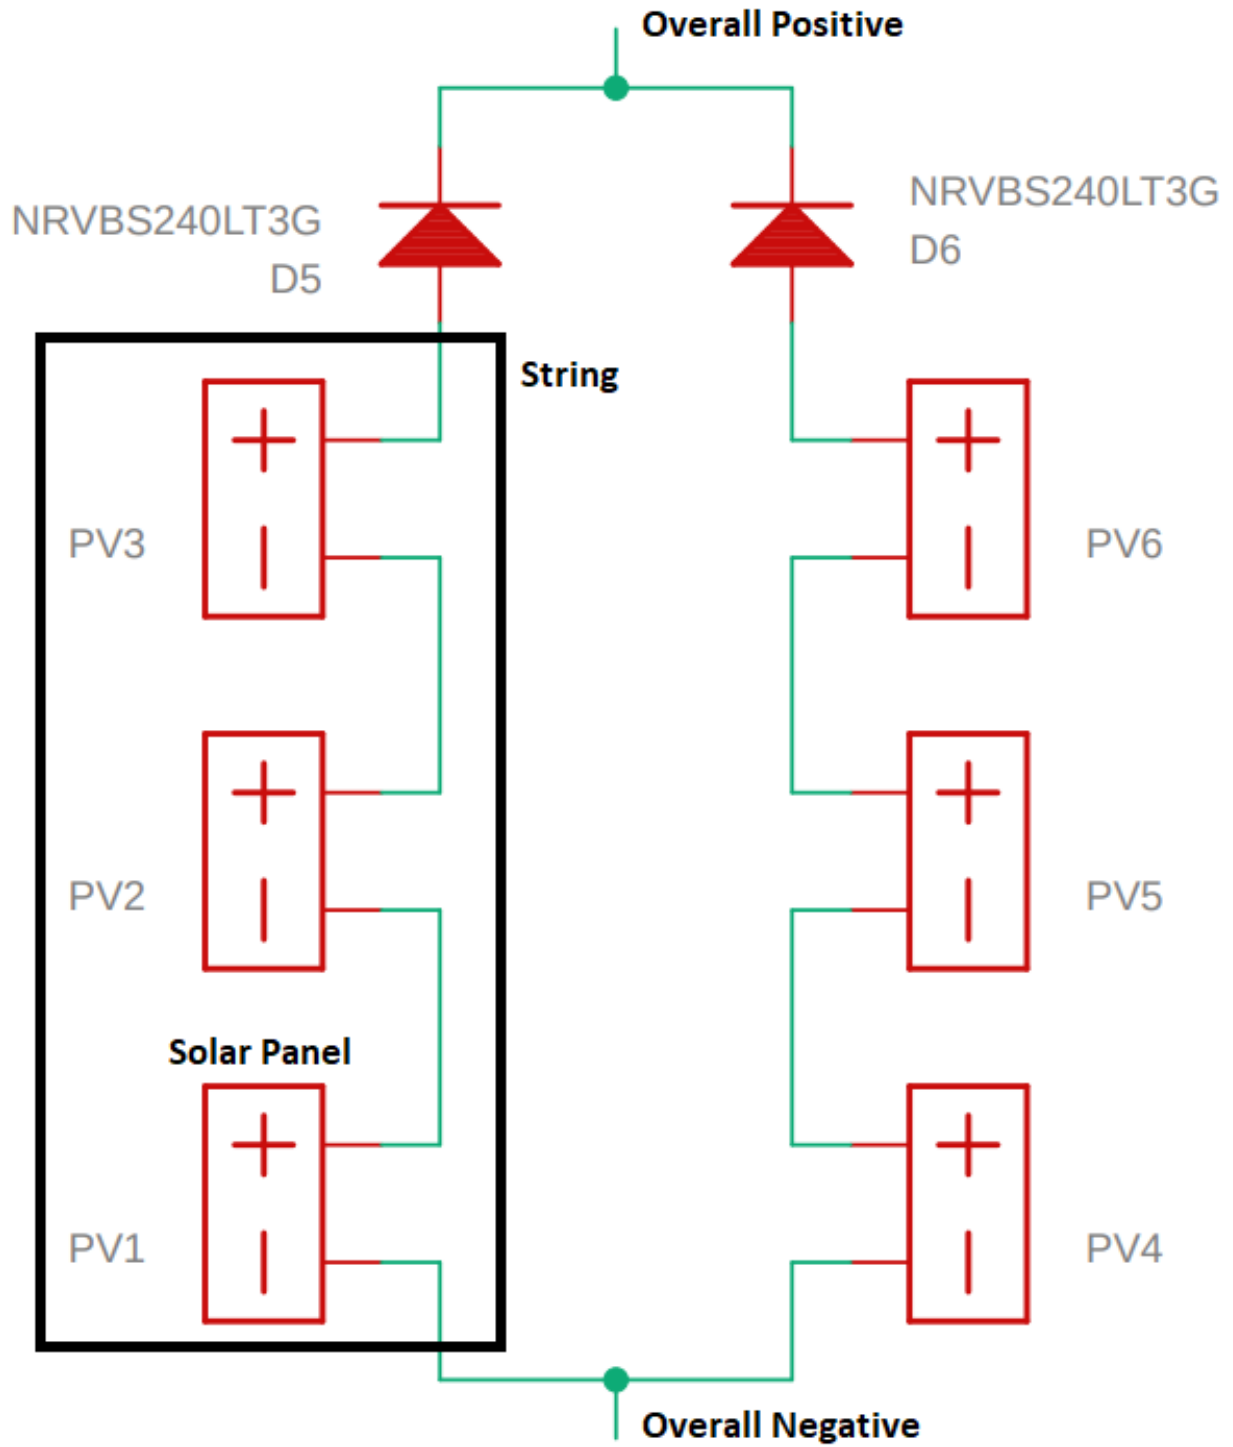

Figure 11 - Solar panel string configuration
Voltage: Just like batteries, solar cells can be connected in series to increase the voltage of the string, with the positive terminal of one cell connected to the negative of another cell and one overall negative and positive connection for the string, shown in Figure 11. Strings of the same voltage can then be connected in parallel with each other to increase current. A diode should always be connected on the overall positive of each string. This is because when a cell or string is not within sunlight, they can turn into current sinks, absorbing all or most of the current produced by the other cells.
- Current - Average Rectified (I_o): This value should be higher than the short circuit current of the panels in the string. Notice this is not the sum of all the panels, just the maximum of one panel because that also sets the maximum current of the string. If the short circuit current of the panels in Figure 11 is 20 mA, then the value must be equal to or greater than 20 mA